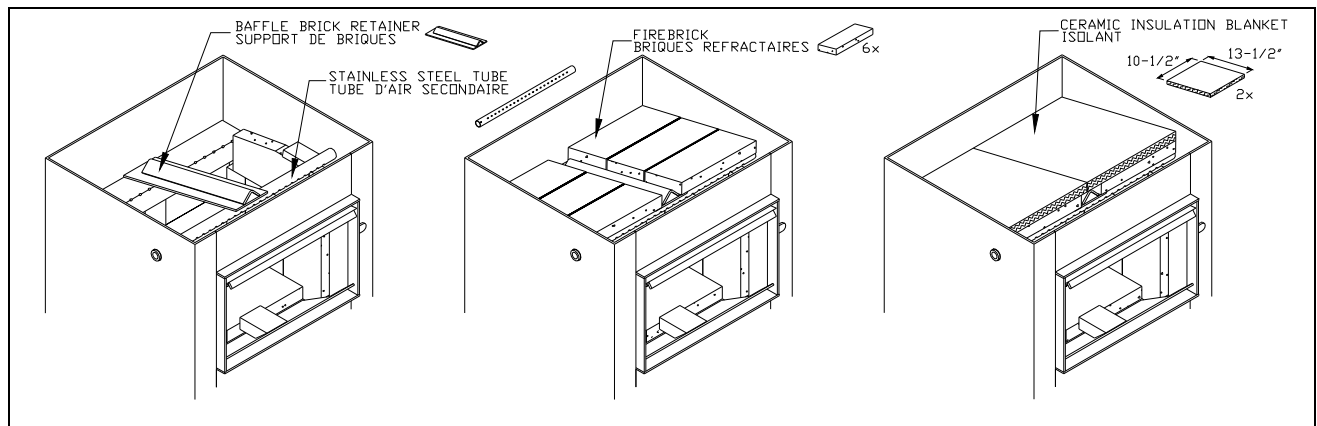

FIGURE 1
- 1- The ceramic insulation should be installed in place before the baffle bricks. Place the first piece of ceramic insulation up inside the top of the firebox and place one side over the baffle brick retainer so that the 343mm length goes from front to back and the 267mm length goes from side to side as shown in Figure 1. The ceramic blanket should lie over the stainless steel tube, over one side of the brick retainer and rest on the firebrick sides. The second piece of insulation should be laid on the opposite side of the baffle brick retainer, over the stainless steel tube and over the firebrick, directly beside the first piece of ceramic insulation without overlapping as shown in Figure 1.